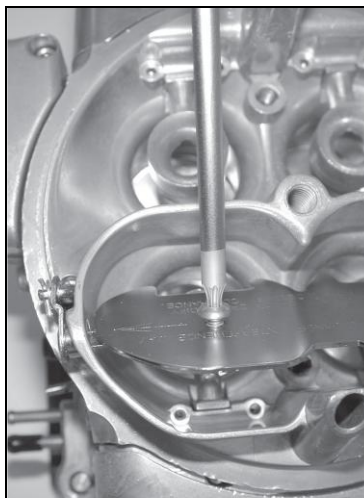

Figure 8
8. Use the two T15 Torx® head screws to secure the choke flap to the choke shaft (Fig. 8). The flap has instructions stamped on its upper side. Make sure you can read the instructions and that the arrow points towards the choke rod. **NOTE:** It is extremely important that the choke flap is centered so it moves freely and does not bind. You may need to remove the flap to deburr the edges if it binds and reinstall. Once the choke flap is centered and moving freely, remove the Torx® head screws one at a time. Place a drop of Loctite® 271 on them and reinstall. Wipe any excess Loctite® off the screw heads or shafts before proceeding.